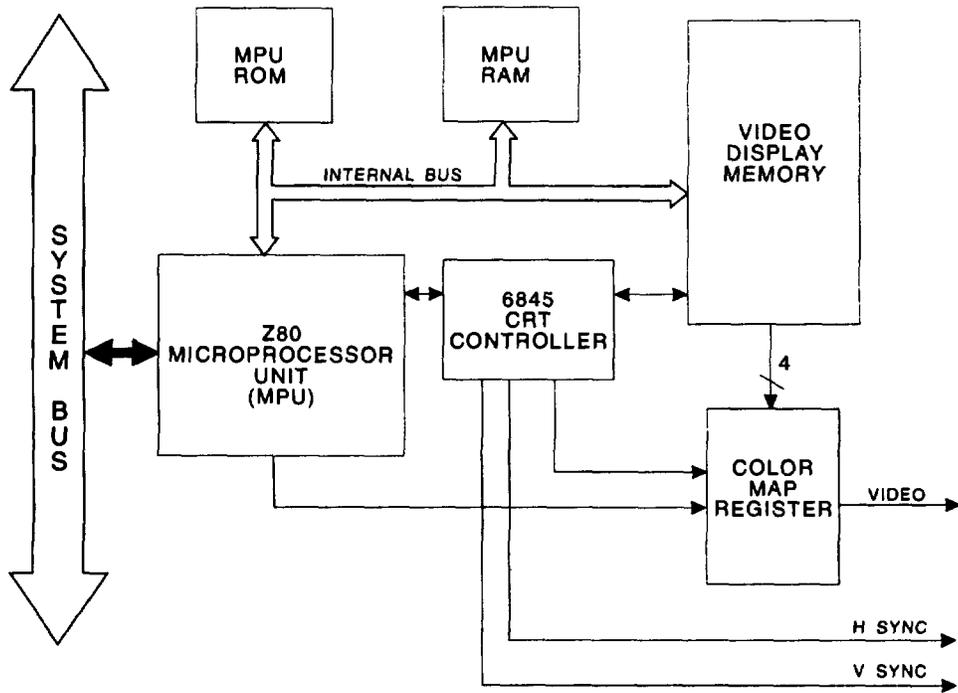

Figure 1-7. 1A2A2 Bit Mapped Graphics Adapter Functional Block Diagram.
- f. **1A2A2 Bit Mapped Graphics Adapter CCA.** This CCA (fig. 1-7) is one of two display controllers in the TS-4320 and provides high speed, high resolution graphics modes for trace display.